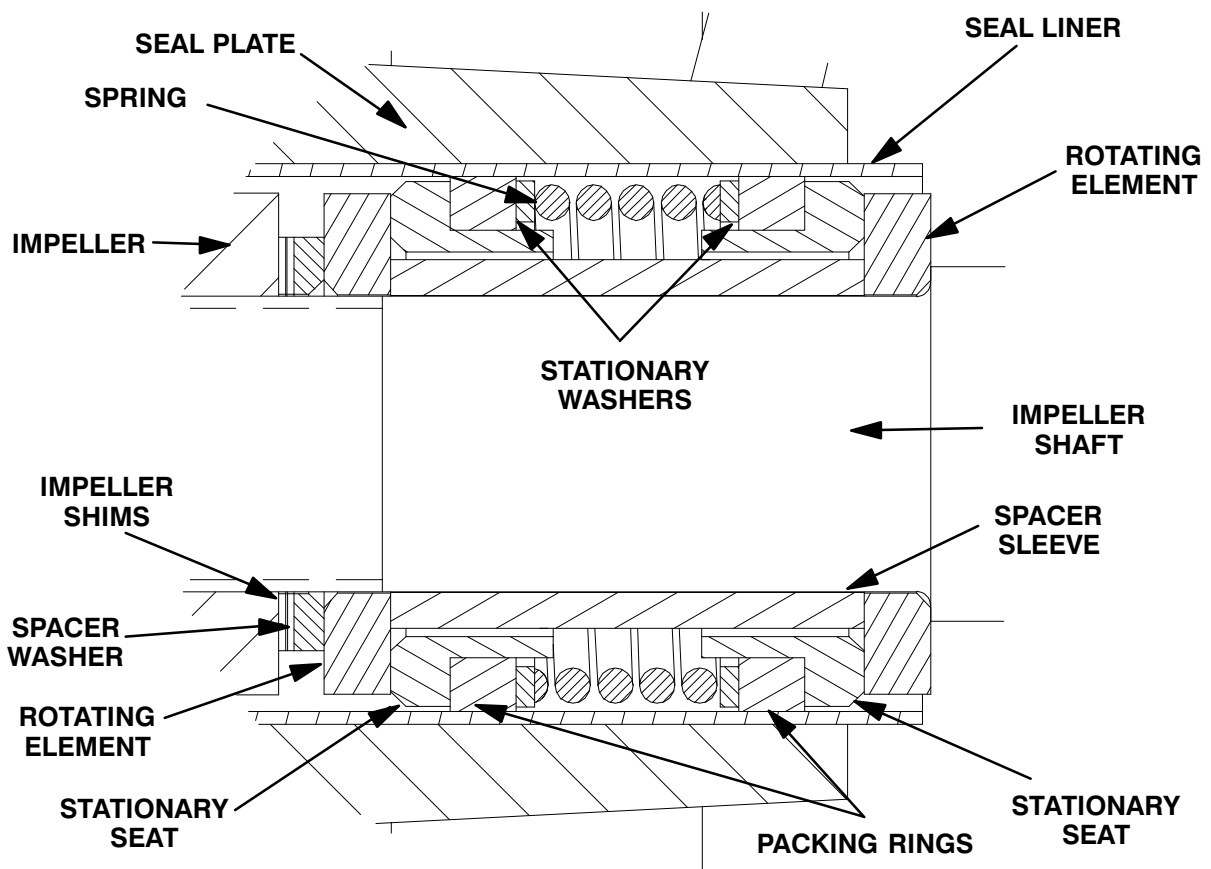

Figure 3. Seal Assembly
To ease installation of the seal, lubricate the seal liner (64) with water or a very **small** amount of oil, and apply a drop of light lubricating oil on the finished faces. Assemble the seal as follows, (see Figure 3).